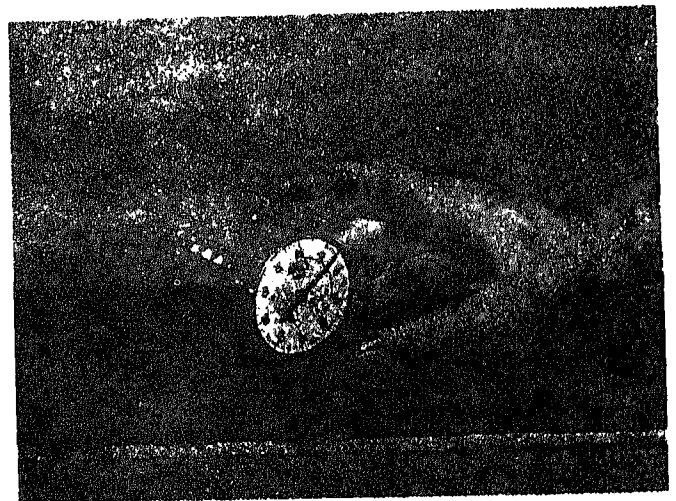

Fig. 14-1-13. Checking cylinder liner protrusion
12. Check liner protrusion at four equidistant points with ST-547 Gauge Block, Fig. 14-1-13, to be certain that liner protrusion is within 0.004/0.006 in. [0.1016/0.1524 mm]. Measure outside of bead.